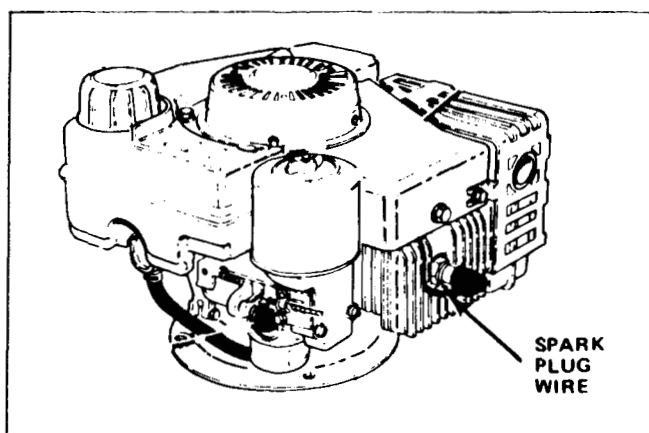

Figure 1
1. Stop the engine and pull the wire off the spark plug. See Figure 1.